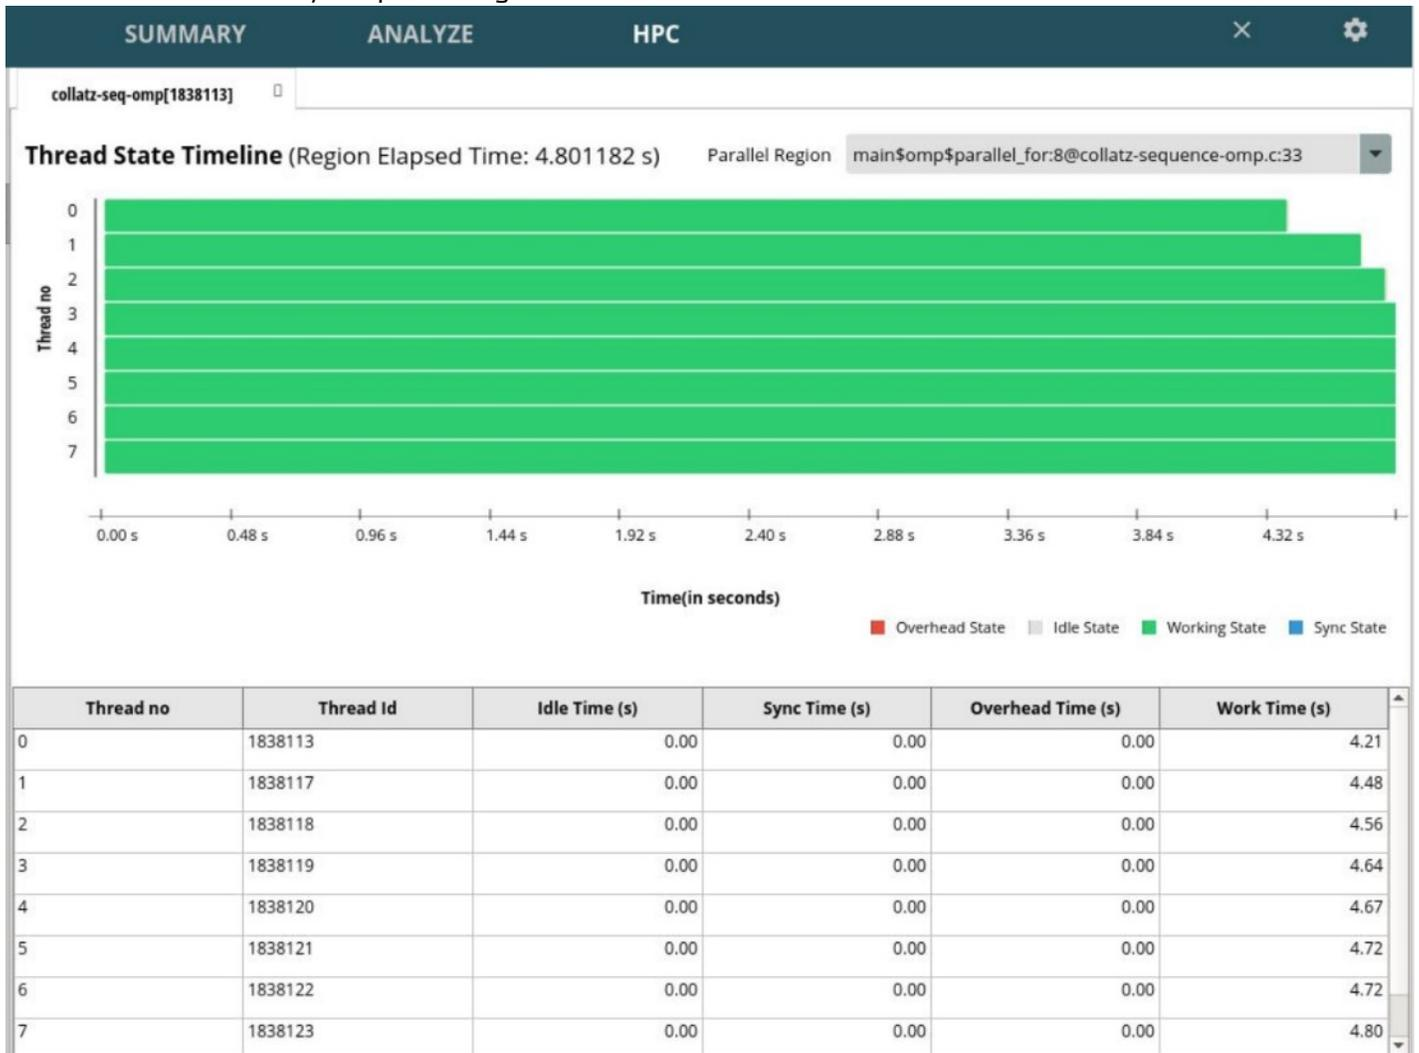

Figure 5-5: Regions Detailed Analysis page with thread activity
4. Navigate to the HPC page to analyze the OpenMP tracing data. Figure 5-5 shows the Regions Detailed Analysis page with the thread activity in a parallel region.